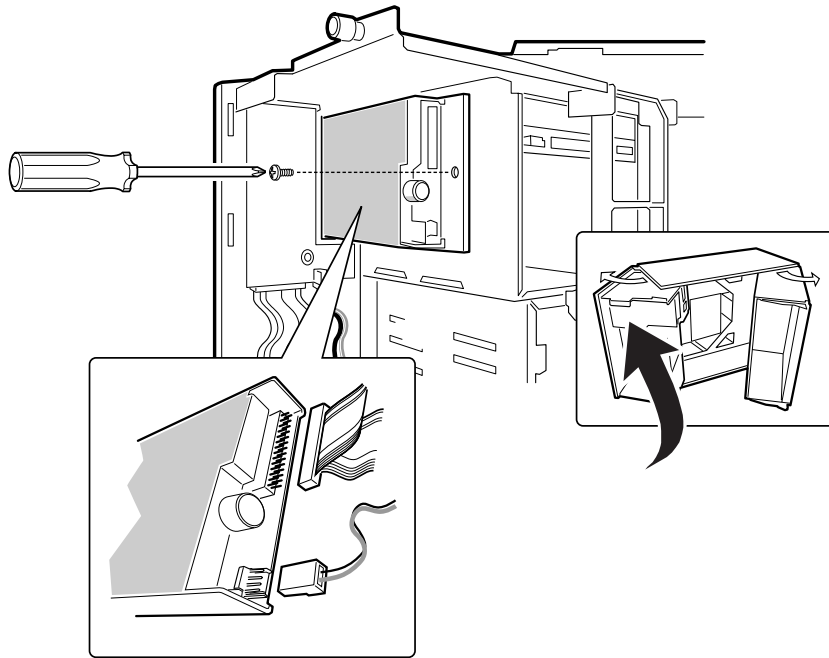

Figure 13: Removing the Diskette Drive
4. Disconnect the power and signal cables (Figure 13) from the diskette drive. The connectors are keyed for ease in reconnecting them to the drive.
The 3.5-inch diskette drive is not installed in the 5.25-inch drive bay. The diskette drive carrier attaches to the outside of the 5.25-inch drive bay (see Figure 13 on page 46).